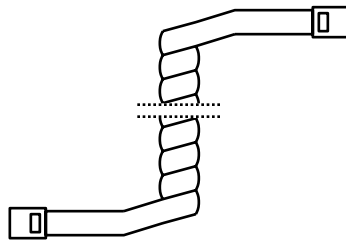
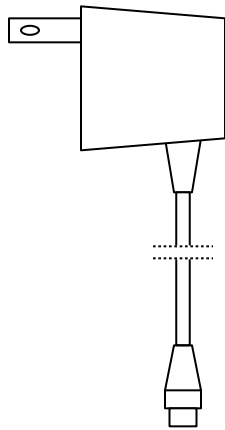
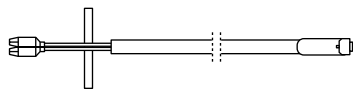

Figure 2
Figure 4
Figure 5
- RJ11 Retracting / Reversing six conductor Cable (Figure 2)
- Battery Charger and DDA/STI Interface Cable (Figures 4, 5)
Modular adapter. Converts the RJ11 connector to a DB9 connector. Connects the RJ11 cable (Fig. 2) to the DDA/STI interface cable (Fig. 5). Accepts the plug from the battery charger shown in (Fig. 4).